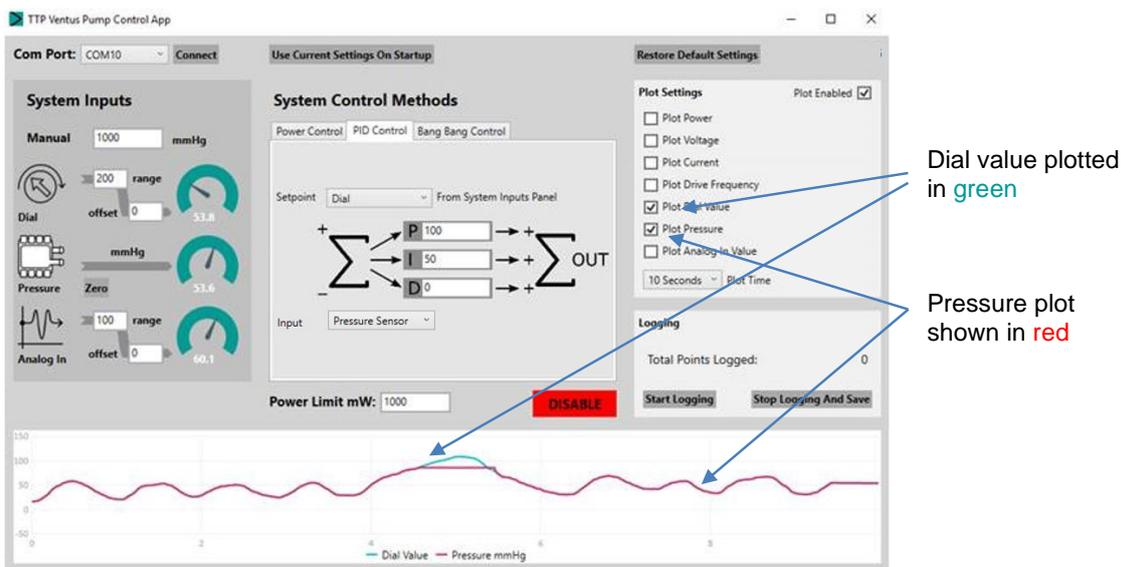

Figure 11: GUI showing PID control set up
- In the second drop down box below the PID variables, select Pressure Sensor. (This is the variable which is controlled by the PID loop to match the control input). See Figure 11 for further details.
Figure 11 shows how the output pressure profile matches the setpoint dial value (our simulated analogue input) exactly. The only time the waveforms do not match is when the pump is asked to produce a pressure higher than it is cable of achieving against the vent orifice and within the constraints of the power limit set in the software.